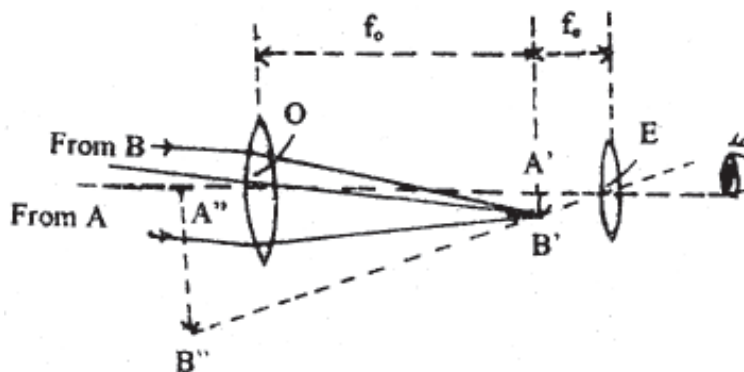

Fig. 19.1 : Ray diagram of telescope
1. Both lenses must be made of a good opthalmic or optical glass and not cheap ones made of window glass. It ensures that the image A"B" (Fig. 19.1) has enough details and these are seen clearly by lens E.